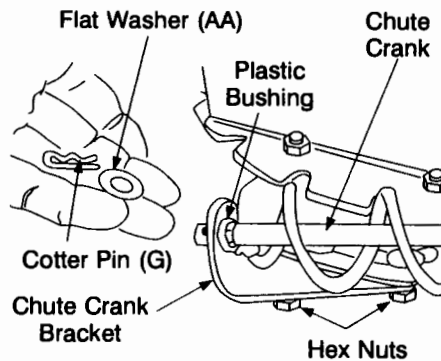

FIGURE 8
- Loosen hex nuts on the lower chute crank bracket. See Figure 8.
- Insert the end of the crank into the hole in the plastic bushing in the chute bracket. See Figure 8. Secure with flat washer (AA) and cotter pin (G) (5/16" diameter).
- With the hex nuts loosened on the chute crank support bracket adjust the chute bracket (see Figure 8) so that the spiral on the chute crank fully engages the teeth on the chute assembly. Tighten the nuts on the lower chute crank bracket securely.